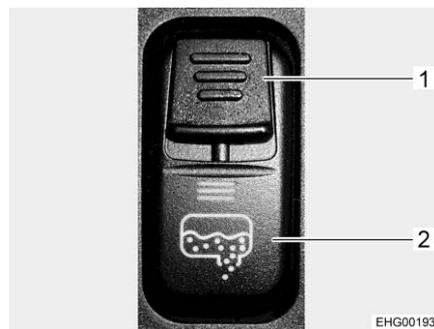

Fig. 195 Rocker switch (waste water drainage)
- Push the safety slide button (Fig. 195,1) on the rocker switch downwards and, at the same time, press the lower part of the rocker switch (Fig. 195,2). Doing this, the waste water valve is opened and the waste water tank is emptied. The LED is lit as long as the waste water tap is open.